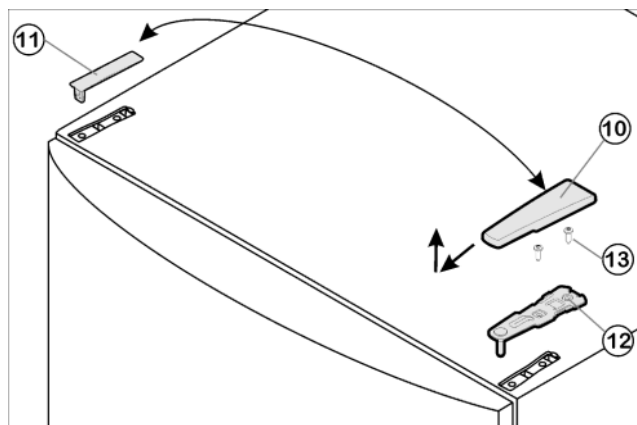

Fig. 6
- Pull off the cover Fig. 6 (10) forwards and upwards.
- Lift off the cover Fig. 6 (11).
- Unscrew the upper turn hinge Fig. 6 (12)(2x Torx® 25) Fig. 6 (13) and raise it for removal.
- ▶ Insert the upper turn hinge Fig. 6 (12) in the door on the new hinge side.
- ▶ Screw the upper turn hinge Fig. 6 (12) firmly into place (**with 4 Nm**)(2x Torx® 25) Fig. 6 (13). Possibly make preliminary holes with a bradawl or use a cordless screwdriver.
- ▶ Snap the cover Fig. 6 (10) and cover Fig. 6 (11) into place at the opposite side.